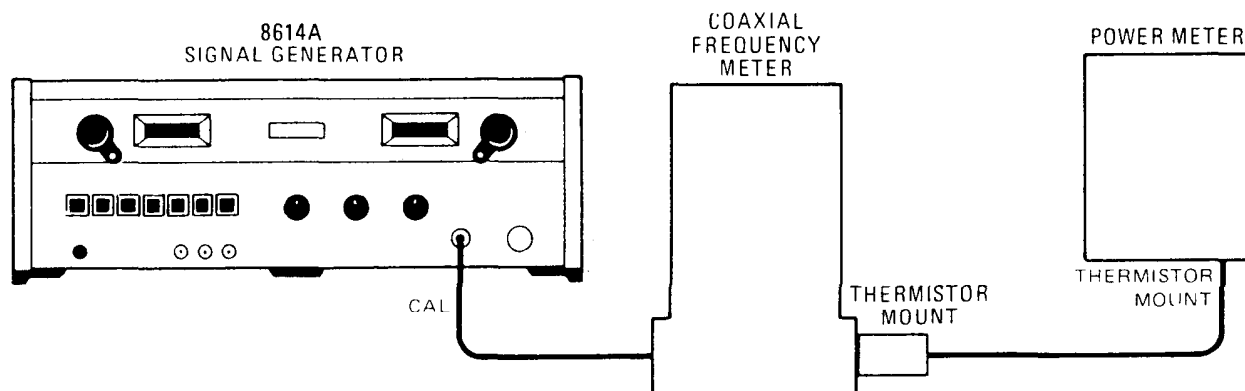

Figure 5-1. Frequency and Power Measurement
- Connect equipment as shown in Figure 5-1.
a. Connect instruments as shown in Figure 5-1, omitting the frequency meter.
a. Connect instruments as shown in Figure 5-1, omitting the frequency meter and attenuator.